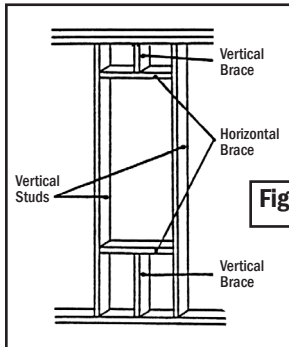

Figure 1
- Refer to rough opening dimensions and install (*figure 1*):